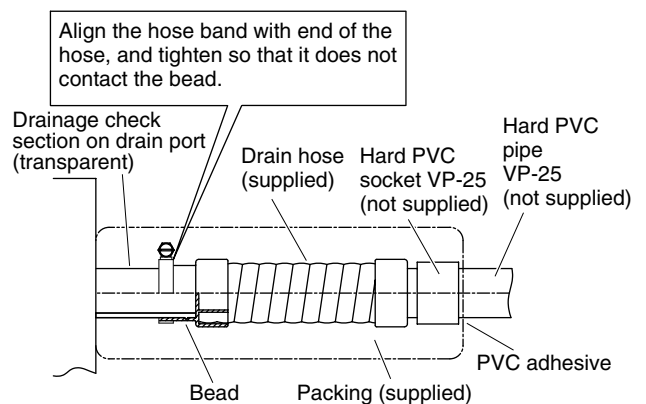

**Fig. 3-24**
- (2) Thread the 3 hexagonal nuts and 2 washers (field supply) onto each of the 4 suspension bolts as shown in Fig. 3-24. Use 1 nut and 1 washer for the upper side, and 2 nuts and 1 washer for the lower side, so that the unit will not fall off the suspension lugs.